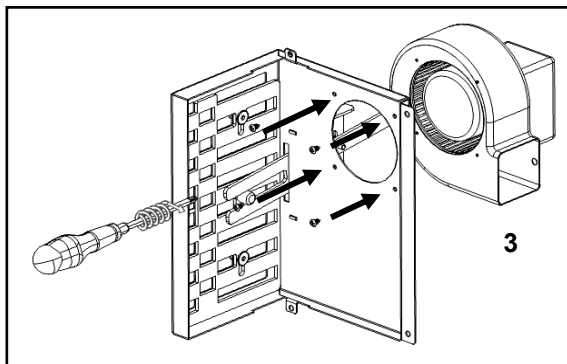

Figure 50 - Securing the support bracket to the ventilator
e) Tighten the Figure 50 assembly on the top face of the combustion chamber using 4 screws A (DIN 7981 5,5x13) in the holes prepared for this purpose (2).